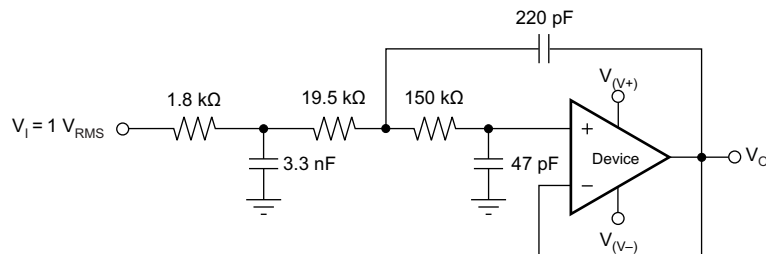

图 37. OPA355 Configured as a Three-Pole, 20-kHz, Sallen-Key Filter
3. Using a noninverting filter topology, such as the Sallen-Key (see 图 37).